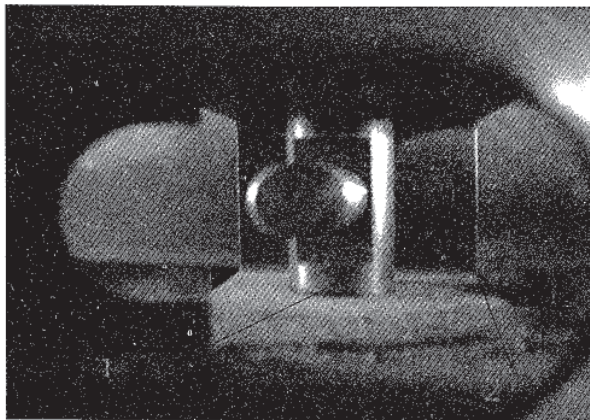

Fig 4-7
4.2.10 Insert the piston rod from the hole of the bead breaker slide bushing (Fig4-7-1) .The plane of the slide bushing face outwards (Fig4-7) . Screw the screws detached into the front end of the piston rod.